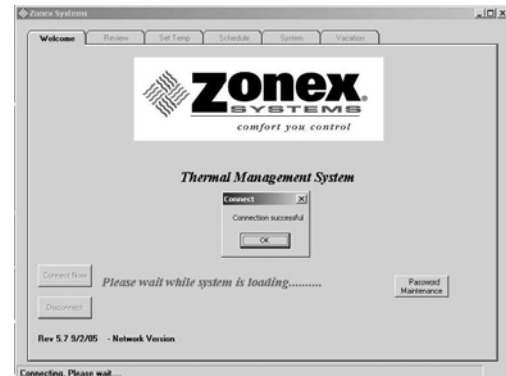

Fig. 9
5. Click on **OK** in the **Connection Successful** window (see Fig. 9).